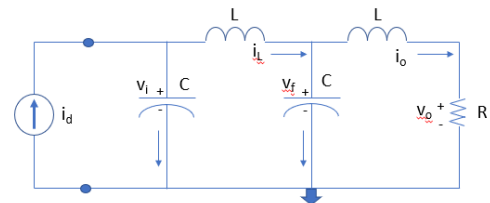

Figure 2: Voltage supply low pass filter (LPF) from $i_d(t)$ to $v_o(t)$.
The half-wave rectifier is the diode which only allows positive current to pass. The purpose of the transformer is to decrease the peak voltage experienced on its right-hand-side. The purpose of the inductors and capacitors is to implement a low pass filter (LPF) to smooth the current and voltage delivered to the load that is modeled as a resistor. Figure 2 shows the linear, LPF circuit between the diode current and the load voltage. The input is $i_d(t)$ and the output is $v_o(t)$.
3. Using the state definition in eqn. (1), show that the LPF circuit in Fig. 2 has a linear state space model with